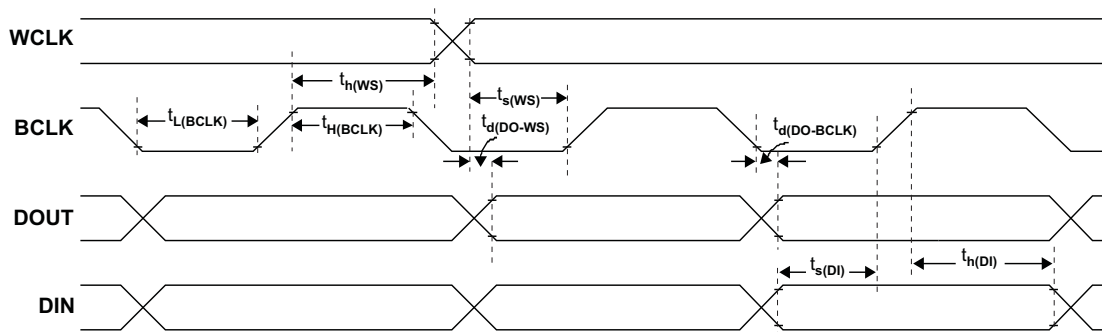

Figure 2. I2S/LJF/RJF Timing in Slave Mode
**WCLK** represents WCLK1 pin for Audio Serial Interface number 1, WCLK2 pin for Audio Serial Interface number 2, and WCLK3 pin for Audio Serial Interface number 3. **BCLK** represents BCLK1 pin for Audio Serial Interface number 1, BCLK2 pin for Audio Serial Interface number 2, and BCLK3 pin for Audio Serial Interface number 3. **DOUT** represents DOUT1 pin for Audio Serial Interface number 1, DOUT2 pin for Audio Serial Interface number 2, and DOUT3 pin for Audio Serial Interface number 3. **DIN** represents DIN1 pin for Audio Serial Interface number 1, DIN2 pin for Audio Serial Interface number 2, and DIN3 pin for Audio Serial Interface number 3. Specifications are at 25° C with DVDD = 1.8 V and IOVDD = 1.8 V. (See Figure 2)